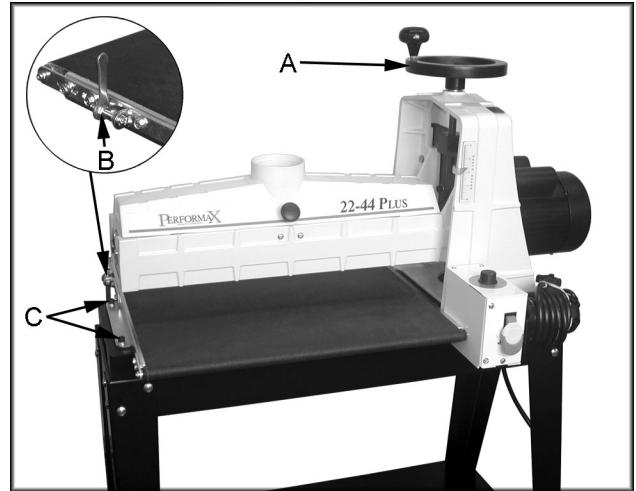

Fig. 16
2. Raise drum to highest position using the handwheel (A, Fig. 16).
3. Remove the belt tension by loosening the take-up nuts (B, Fig. 16).
4. Unscrew the four socket head cap screws (C, Fig. 16) that attach the conveyor and remove the conveyor from the bed.